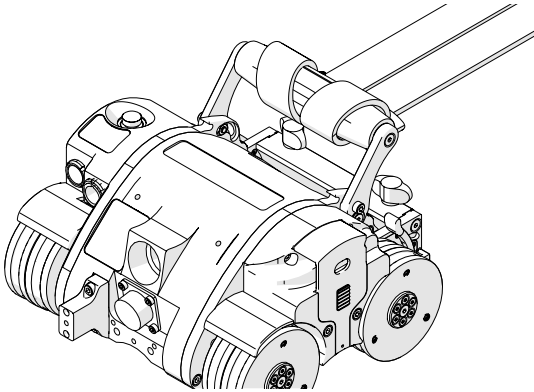
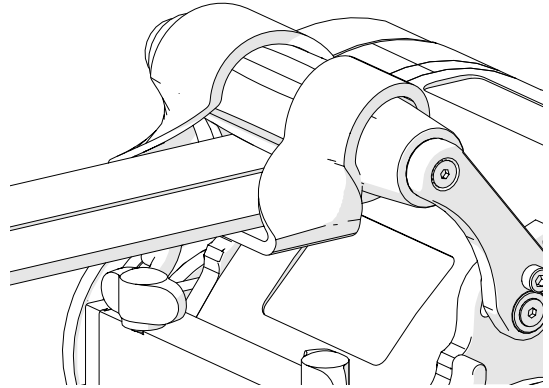

Fig. 58 - Attach the lifting sling with a choker hold
Fig. 59 - Attach the lifting sling with a choker hold
1. Wrap the supplied lifting sling around the handle of the **SKOOT** using a choker hold knot (Fig. 58) and (Fig. 59).